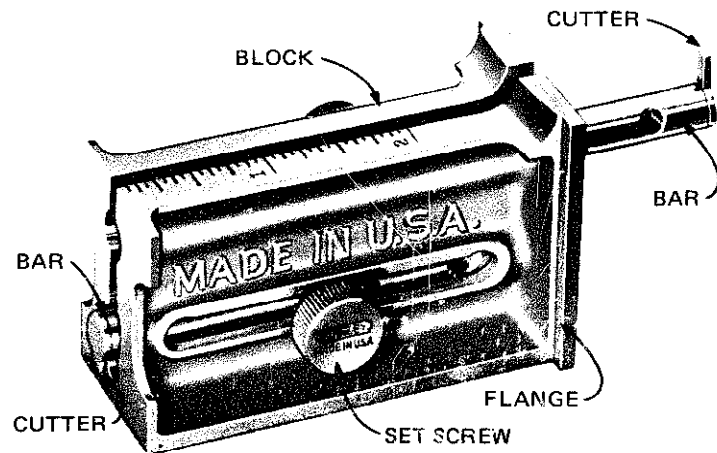

Fig. 4-11 Butt gauge
The butt gauge, figure 4-11, is used to lay out the measurements for setting hinges on doors and door jambs. It is made of metal. The scribing cutters are located on the ends of the beams. These are adjusted by loosening or tightening thumbscrews fastened to the beams and fitted into slots in the body of the gauge.
3. Loosen the setscrew found on the block. Set the gauge for the width of the gain by referring to the graduation on the block (figure 4-11). Tighten the setscrew and check the cutter setting with a rule.